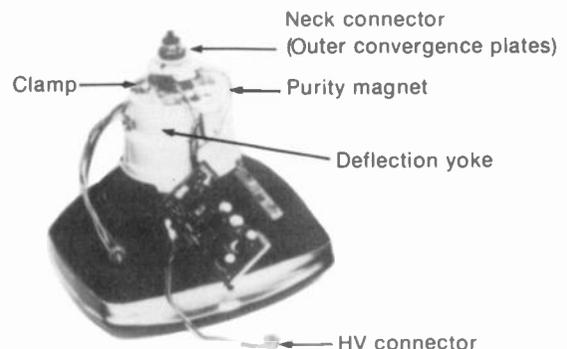
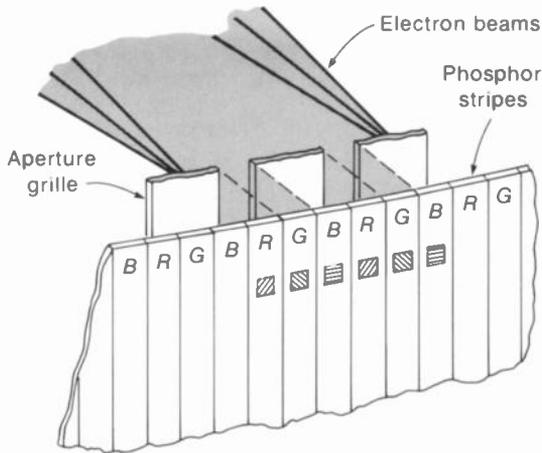

FIGURE 10-14 TRINITRON COLOR PICTURE TUBE. SCREEN DIAMETER IS 12 IN. (SONY CORPORATION)
FIGURE 10-15 VERTICAL PHOSPHOR STRIPES ON SCREEN OF TRINITRON COLOR PICTURE TUBE.
**Sony Trinitron picture tube.** See Fig. 10-14. There is no convergence yoke because electrostatic convergence is used. The phosphor screen of vertical stripes is illustrated in Fig. 10-15. The aperture grille is similar to a shadow mask, but instead of holes the grille has one vertical slot for each set of red, green, and blue stripes. Green is in the center directly behind each slot. The aperture grille increases the transparency for beam current, compared to a shadow mask, allowing more brightness.
The electrostatic convergence is accomplished by the four convergence plates shown in Fig. 10-15. The green beam passes through the center plates, while the other two beams pass between the outer plates. Both center plates are connected internally to the